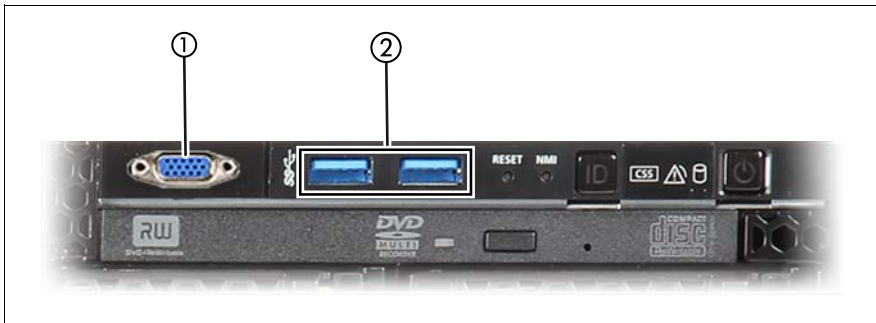

Figure 3: Front side connectors
One optional video connector (1) and two additional USB 3.0 connectors (2) are located on the front of the server (figure 3):